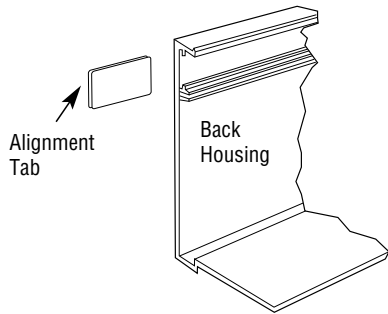

Fig. 5
8. Mount the heaters on the wall using screws, bolts or anchors (by installer) which suit the wall construction. Alignment tabs can be inserted in adjoining back housings to assure even alignment. See Fig. 5 for details.